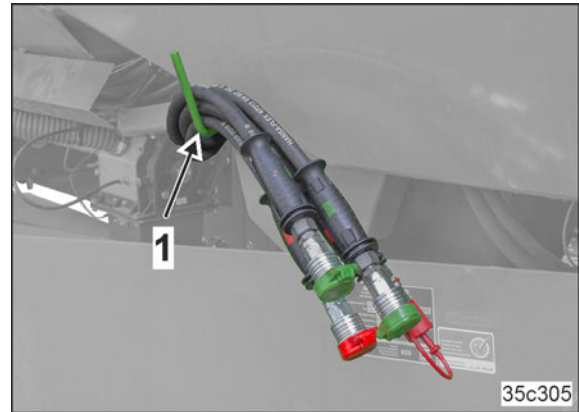

Fig. 116
1. Couple the additional hydraulic hose lines with the PTO shaft hydraulic pump (Fig. 116/1).
- Hose cabinet (Fig. 116/1)